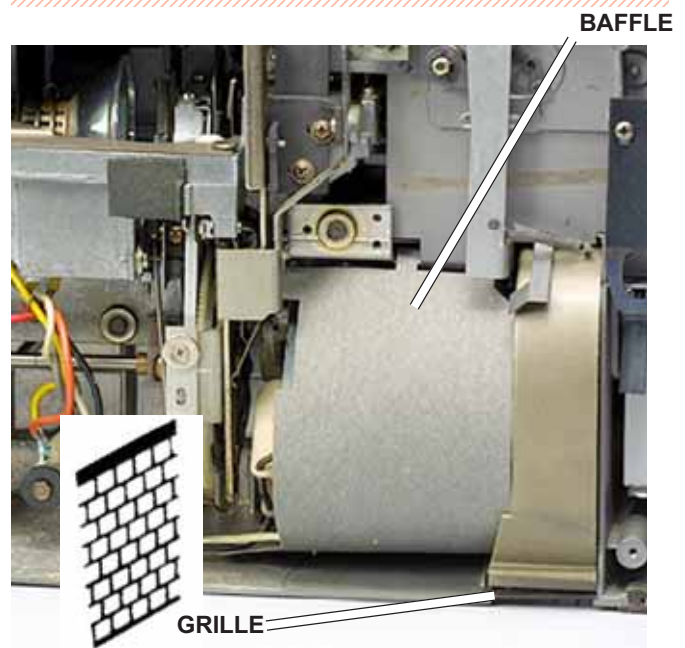

FIG. D10 Bottom of projector, lower right-hand corner.
1. Lift out the loose grille, Fig. D10.
2. Bow in the paper baffle, Fig. D10, until the slot at its top edge disconnects. Lift out the paper baffle to uncover the motor, Fig. D9.